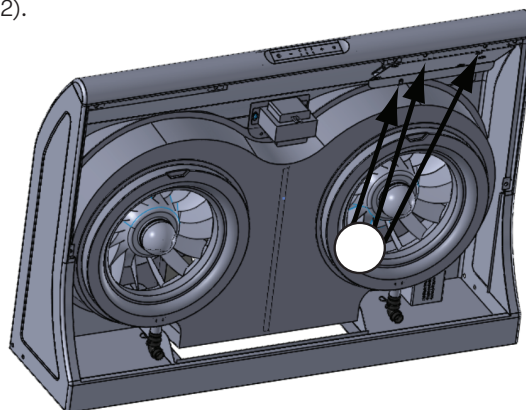

FIG. D2
2. Remove 3 screws securing PC board plate to access PC board (FIG. D2).